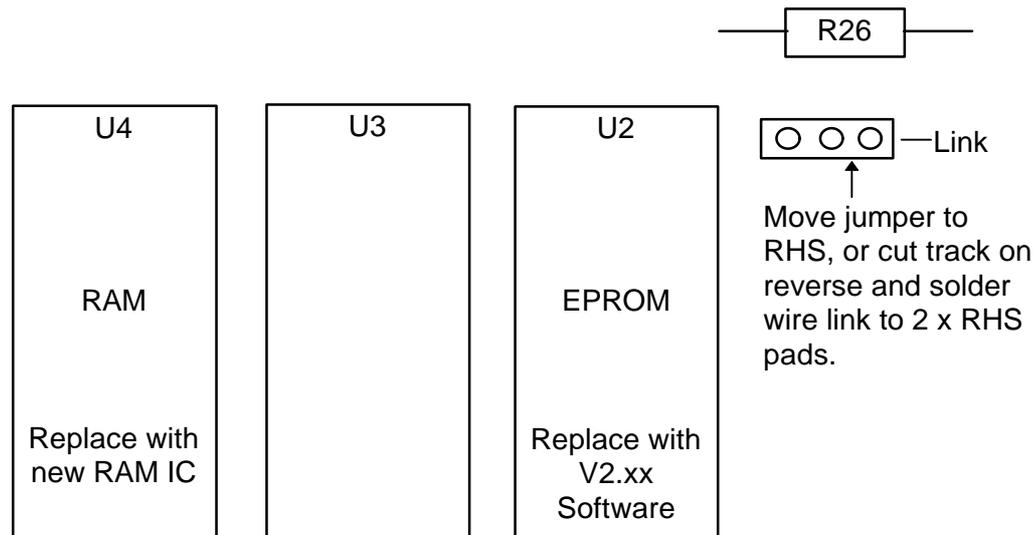

Figure 1
5. Referring to Figure 1, if the Controller has a Link and mini-jump fitted immediately to the right of the top right corner of U2, then move the mini-jump so that it is fitted to the two pins furthest from U2.